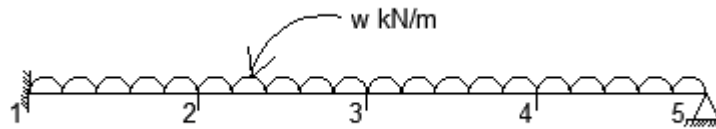

Fig. 1
8. A propped cantilever AB fixed at A and propped at B is of length  $L$  and has constant flexural rigidity  $EI$ . The cantilever supports a udl of  $w$  kN/m over the whole length as shown in Fig. 1. Using 4 subintervals, estimate the deflection at pivotal points using 4th order differential equations.